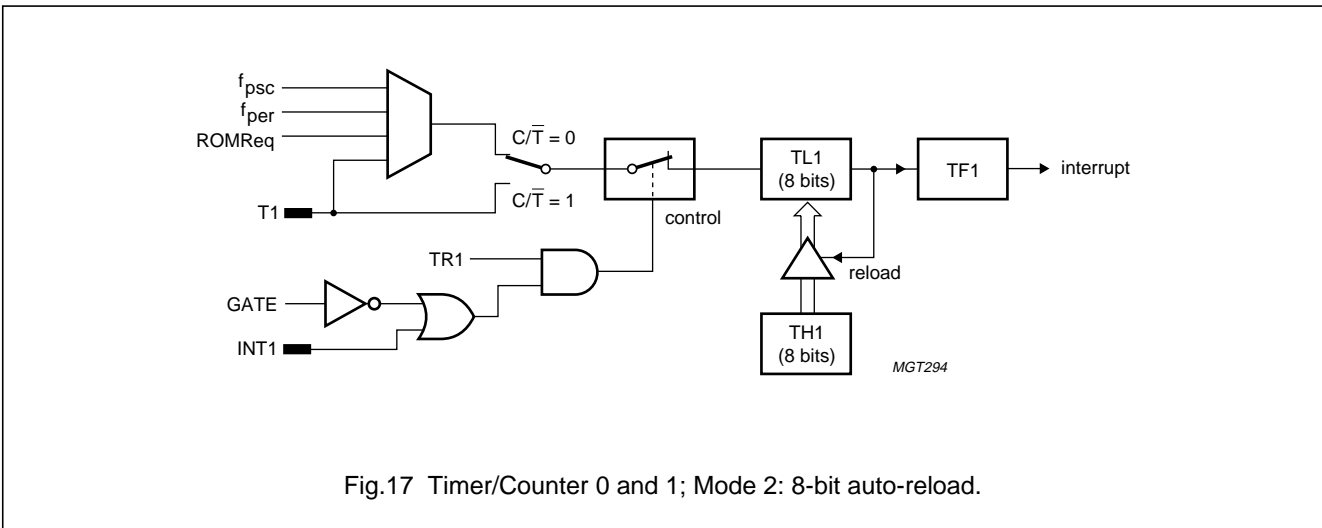

Fig.17 Timer/Counter 0 and 1; Mode 2: 8-bit auto-reload.
- Mode 2** Configures the timer register as an 8-bit counter (TL1) with automatic reload, as shown in Fig.17. Overflow from TL1 not only sets TF1, but also reloads TL1 with the contents of TH1, which is preset by software. The reload leaves TH1 unchanged. Mode 2 operation is the same for Timer/Counter 0.